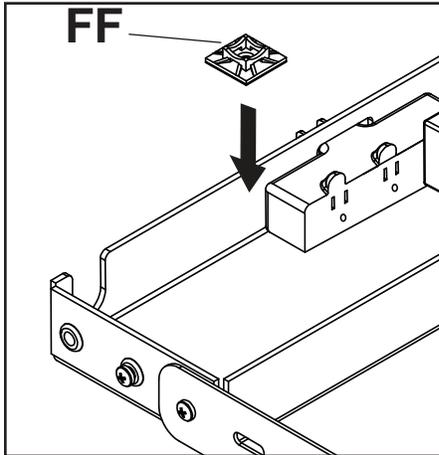

fig. 19.2
- 19 Locate the IR receiver inside of the wireless receiver enclosure shown in figure 19.1. Remove the tie from the cable and position the IR receiver on the display within line of sight of your remote as shown in figure 19.2. Remove the adhesive backing from the IR receiver eye and attach to the display. Coil up the excess cord near the wireless receiver enclosure (AA) and secure with a cable tie (HH). Store the coiled cord back inside of the enclosure.